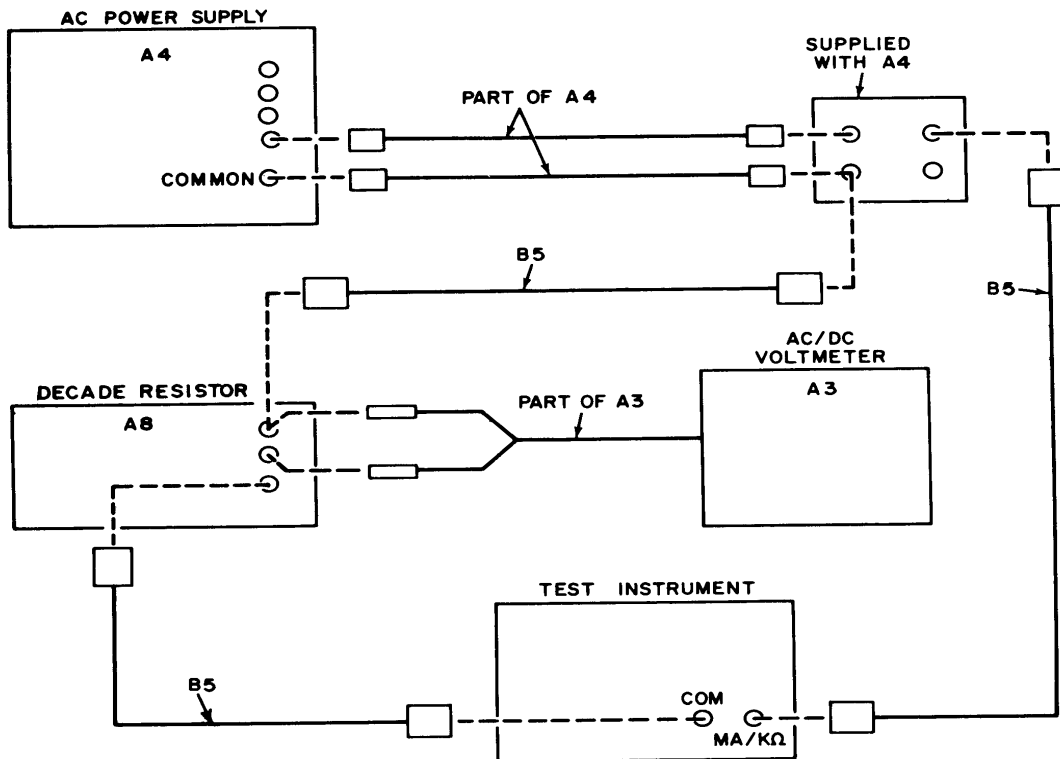

Figure 8. Low ac current - equipment setup.
(1) Connect equipment as shown in figure 8.